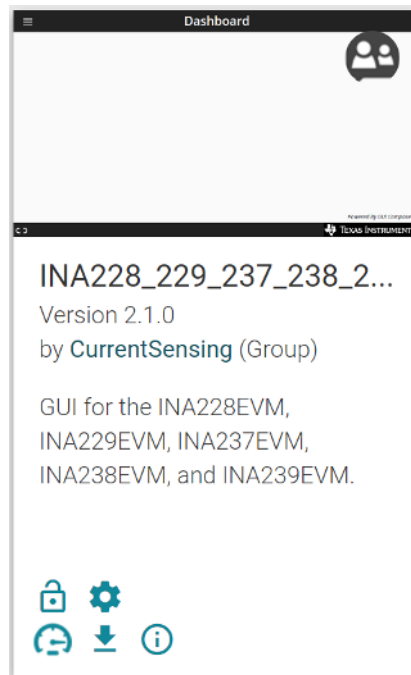

Figure 4-4. GUI Composer Application
3. Open the *GUI Composer* application to launch the GUI from the web browser (see Figure 4-4).
- To download the GUI for offline use, click the  icon in the *GUI Composer* application and follow the prompts (see Figure 4-4).